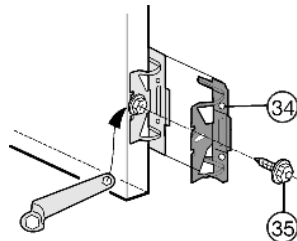

Fig. 13
- Screw mounting bracket *Fig. 13 (34)* with hexagon screw *Fig. 13 (35)* into the pilot holes in the appliance door.